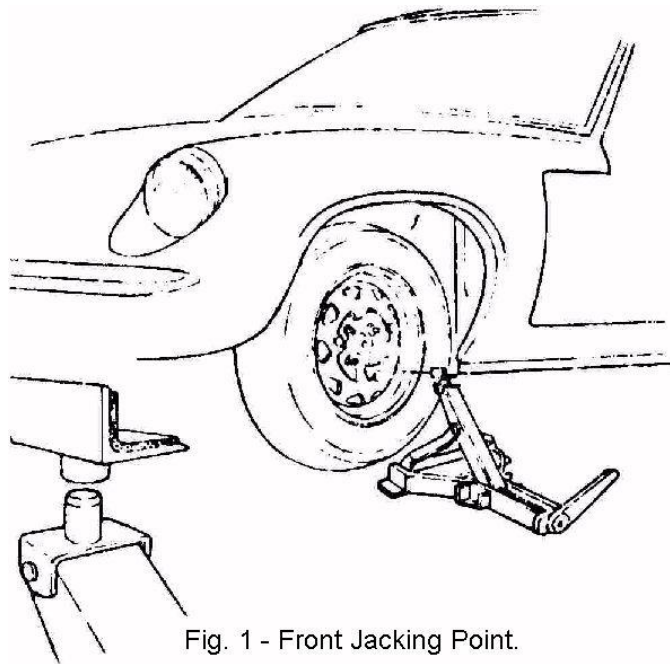

Fig. 1 - Front Jacking Point.
3. Apply the handbrake and raise the front of the car on a suitable jack (see Fig. 1). Place chassis stands in position then remove jack.